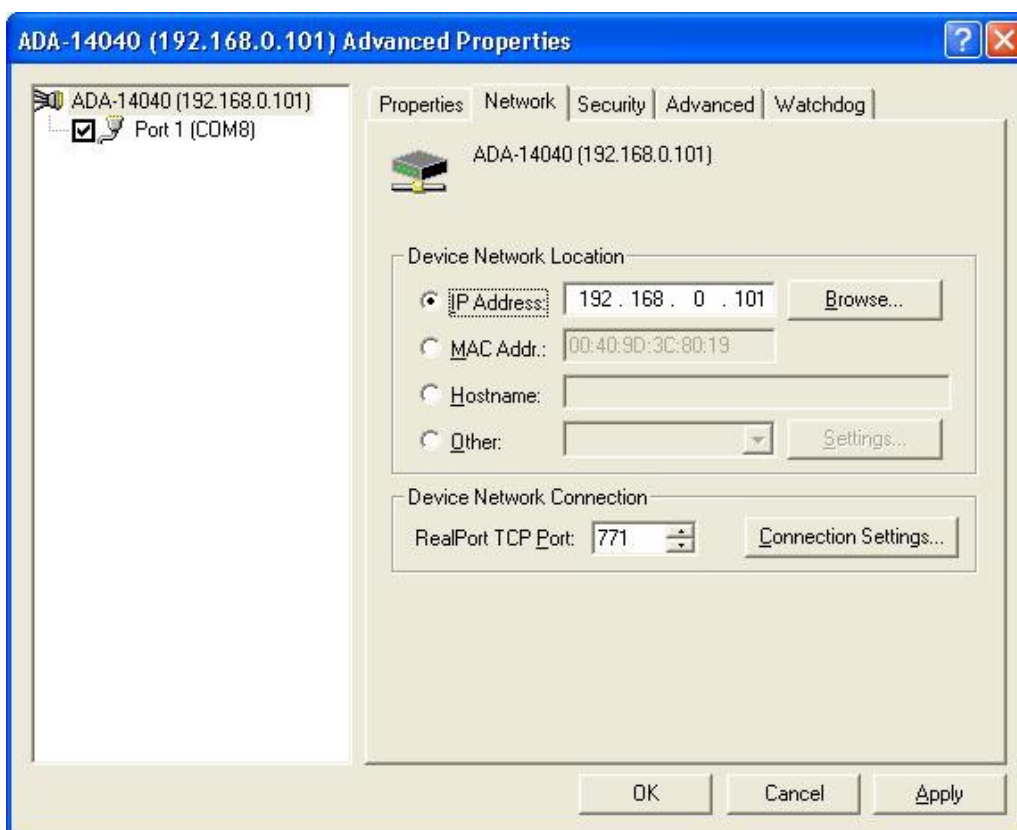

Fig 34. Example configuration of multi-port serial adapter
8. **Select IP address, MAC, DNS server for communication with virtual port driver**. In the window [**Advanced Properties**] click [**ADA-14040**] and then select [**Network**] (Fig. 34), and set the **IP address, MAC Address** or **DNS name** of the wireless serial server for communication with virtual port driver.